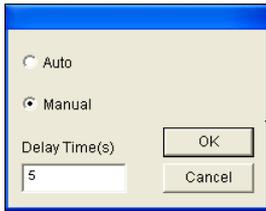

Figure 3-40
- **Live disable alarm:** Choose whether to invoke the warning message when a scene change is detected. Click the [...] button beside to display Figure 3-40.